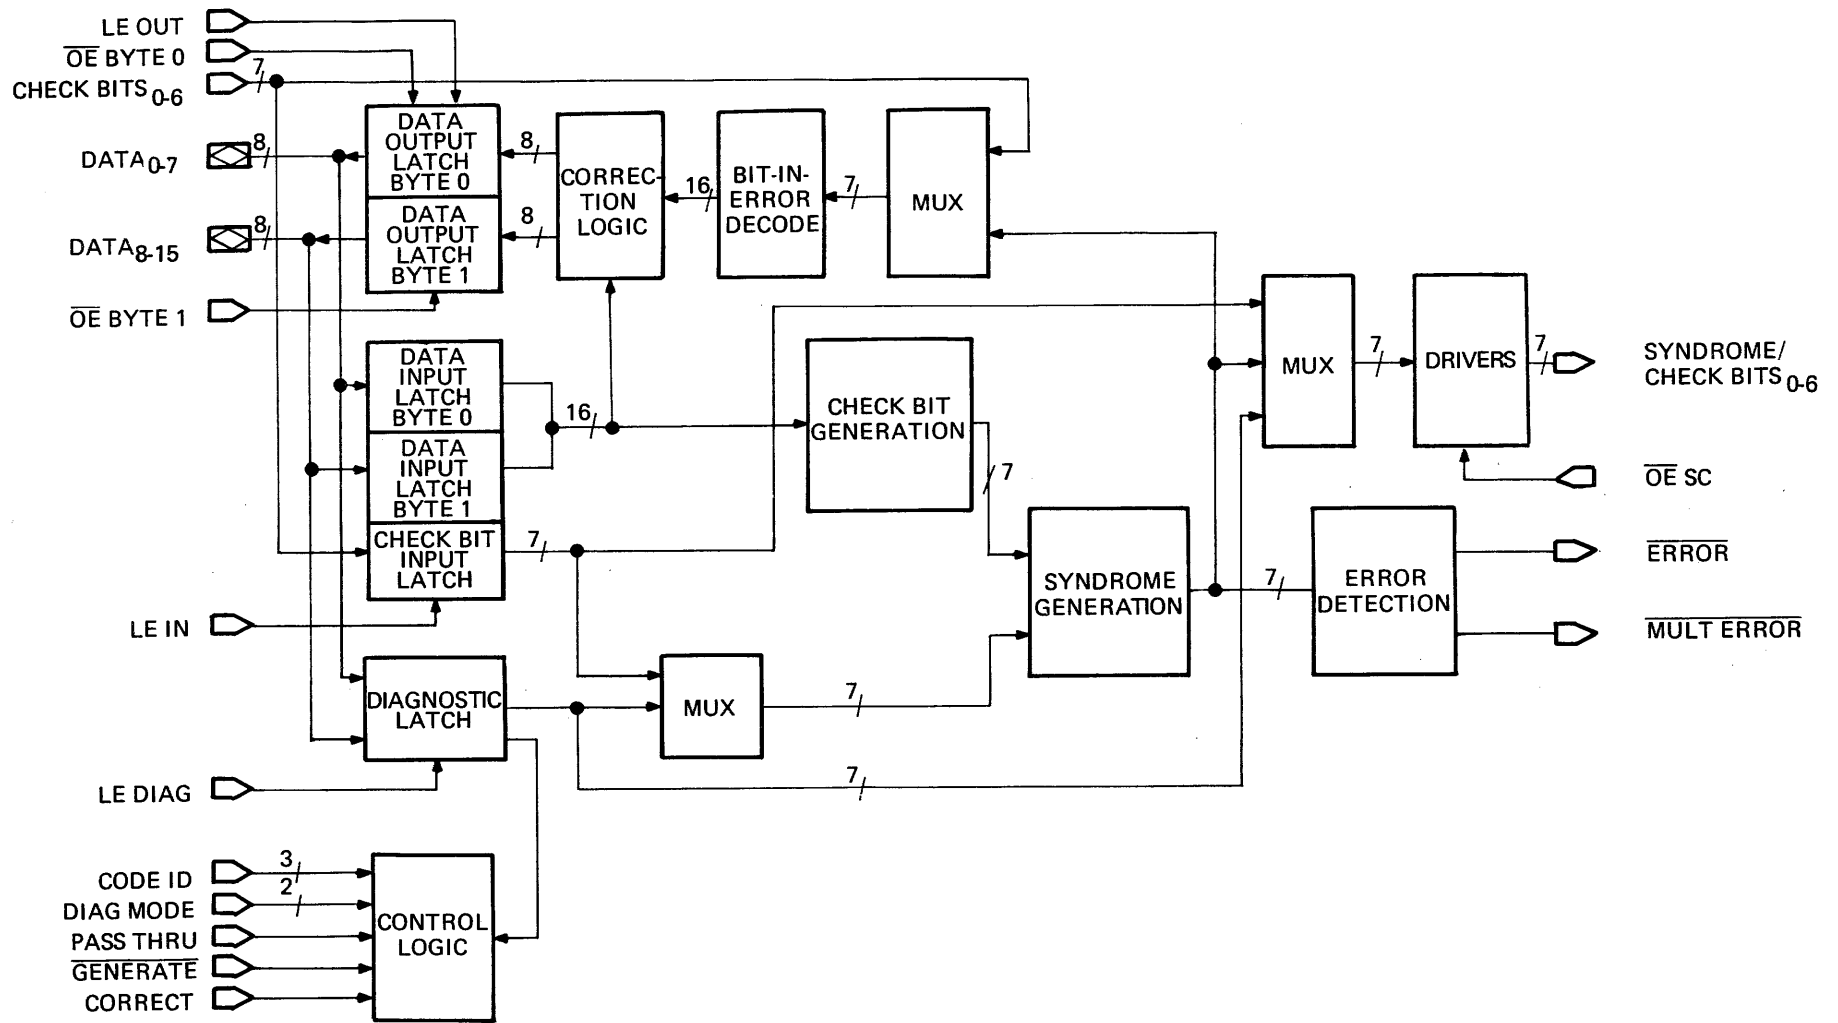
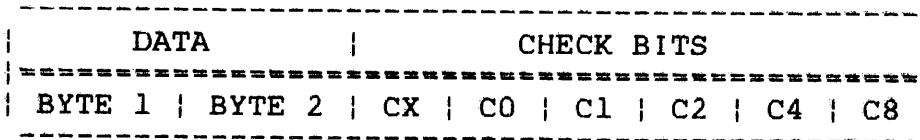

Figure 6-7 ECC Block Diagram
Figure 6-8 16-Bit Data Format
The Model 3205 System ECC (Sheet 3) function is implemented on a single integrated circuit (IC) chip (see Figure 6-8) with a single PAL for data flow control. The ECC is connected to the E bus and can be a source or destination for E bus data. The purpose of the ECC circuit is to detect and correct errors in memory data. The ECC generates six parity bits (SC51:01) for every halfword written to memory to accomplish this task (see Figure 6-8 and Table 6-9). When the memory data is retrieved, the parity bits (CB51:00) are checked against the data halfword using a modified Hamming code (see Figure 6-7). If a single-bit error is detected, signal ERRO is activated and the main system clock is stopped while the data is corrected. In this case, the normal two-microcycle memory operation is extended to three cycles, which allows time for the corrected data to appear on the bus. If a multiple-bit error is detected, signal MERRO is generated, and in turn generates signal ECCD0, a level two microinterrupt. The microcode multiple-bit error handler issues a machine malfunction. Status is saved and control is returned to the user. On every error situation, the syndrome bits (SC15:01) are loaded into the error logger (see Section 6.8). The error logger is read by the user and the data used to determine which bit or bits were in error. Table 6-10 shows how the syndrome bits can lead to the faulty data bits.